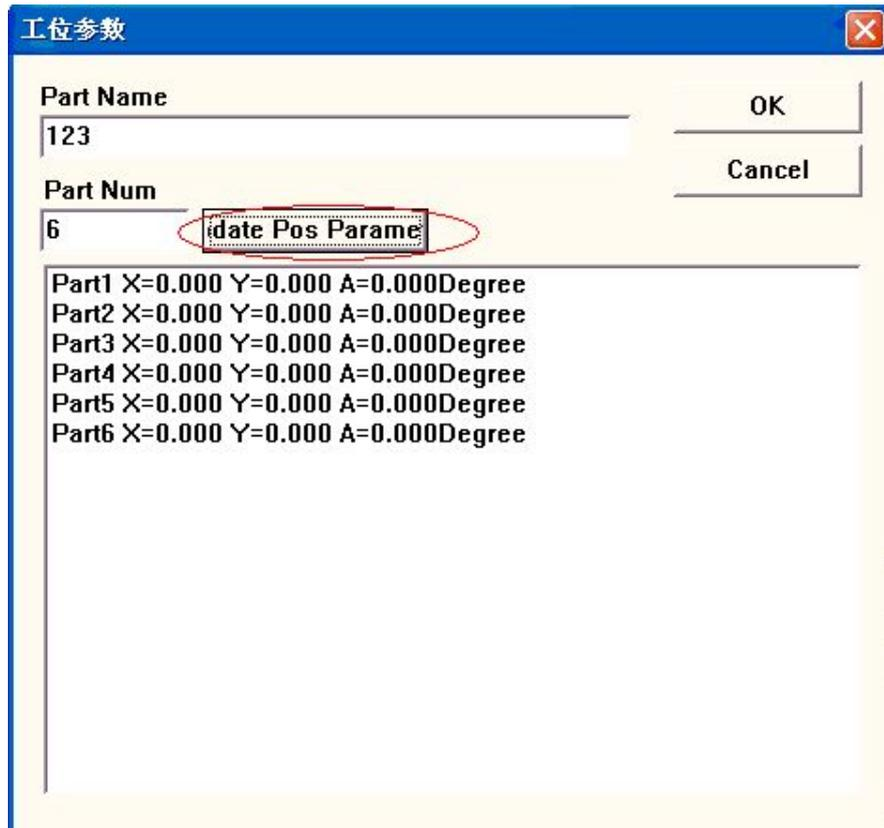
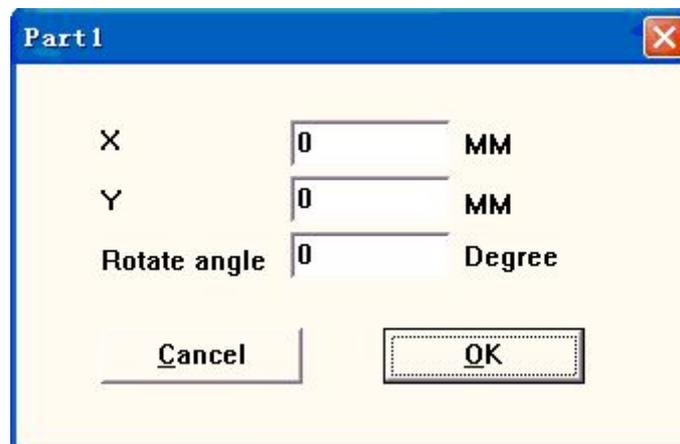

Figure 8-20 Part parameter
Figure 8-21 Parameters of Part position
Firstly, click **Add** button to add a new part type. The dialog box in Figure 8-20 will popup.
**Update position:** Click **Update position** button after setting **Part number** to show detailed information of each part, as is shown in Figure 8-20. Double click the item directly to modify the position and angle of each part as Figure 8-21 shows.